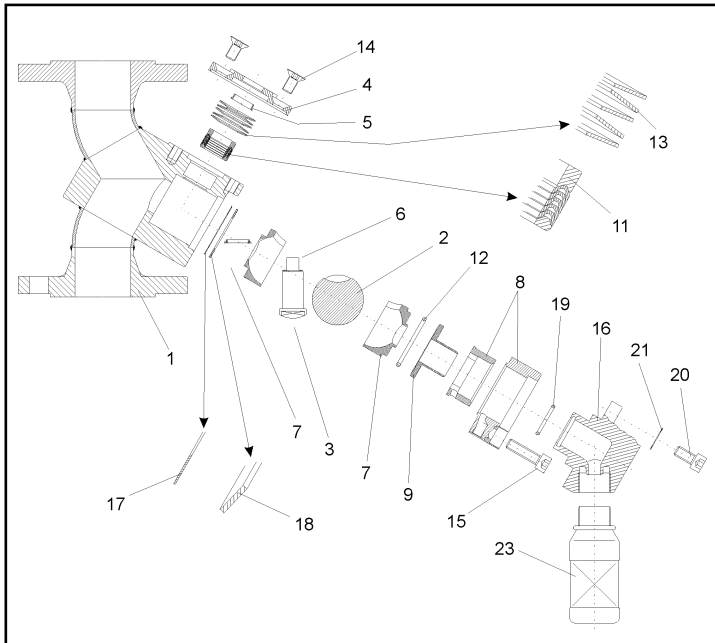

Fig. 3 - Explosion drawing of the sampling valve Series 27a
Place the seating ring (17) and the spring washer (18) in the body. The positioning of the spring washer is shown in the explosion drawing (Fig. 3)
Insert the PTFE - V-ring packing (11) into the body bore, in the following order; PTFE-bottom ring, PTFE-V-ringe and steel-V-ring. For exact positioning and locating of the V-ring packing and spring washers, refer to the explosion drawing (Fig. 3). Apply grease to the countersunk screws (14). The stuffing box (4), pre-assembled with the bearing sleeve (5), are mounted and aligned with the countersunk screws. Next, tighten the screws evenly and in alternating pattern. After the leak test of the sampling valve, the final assembly can be carried out.